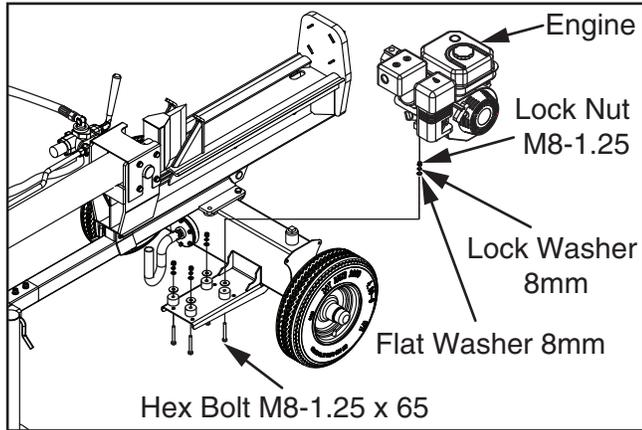

Figure 18. Installing rubber spacers and flat washers onto engine mounting pad.
- Attach engine to mounting pad with (4) M8-1.25 x 65 hex bolts, (4) 8mm fender washers, (4) 8mm lock washers, and (4) M8-1.25 lock nuts (see **Figures 18–19**). Tighten fasteners evenly, in alternating pattern, to reduce risk of cracking mounting flange. **DO NOT** overtighten!